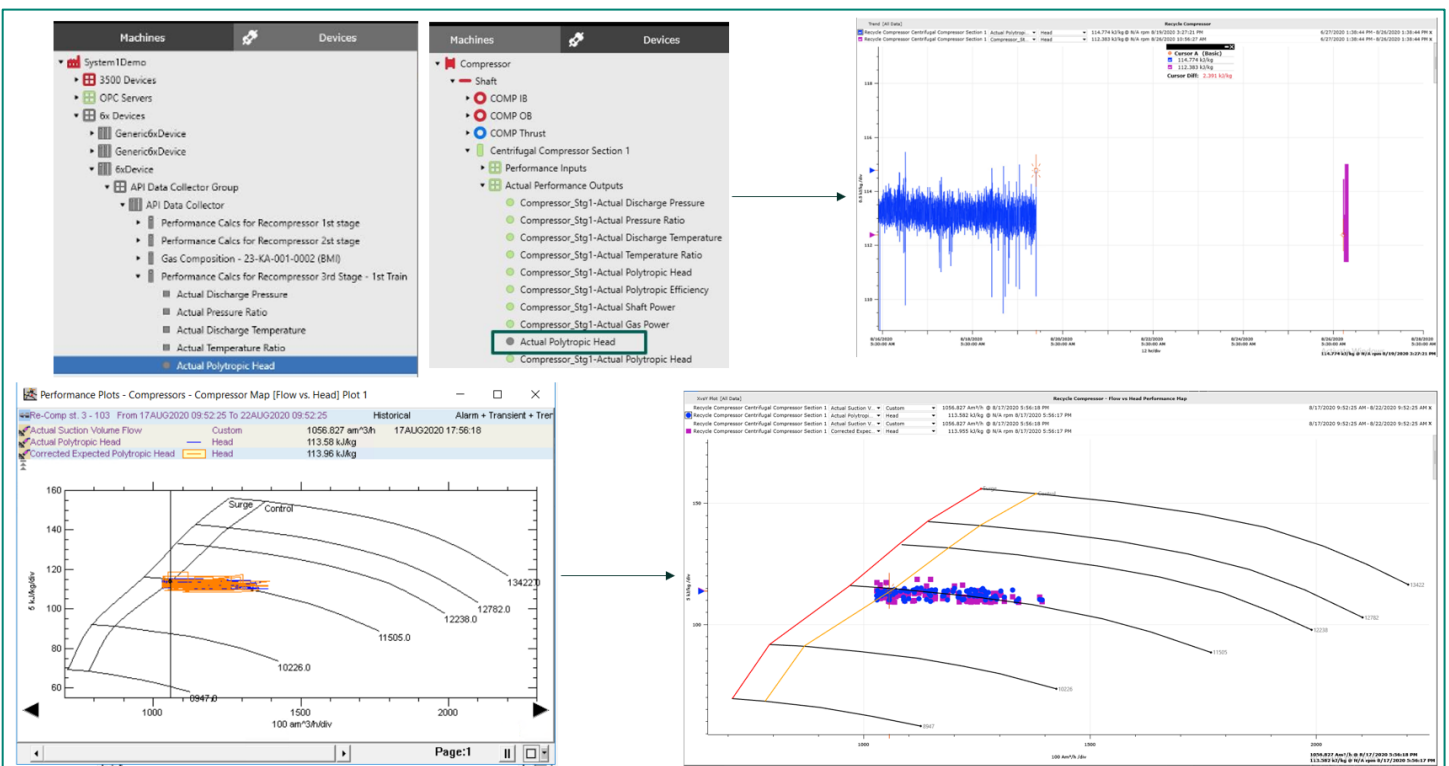

Figure 6: System 1 Classic and Evo Performance Data in Plots Workspace
- View migrated System 1 Classic and System 1 Evo performance data within the Plots workspace (Figure 6)